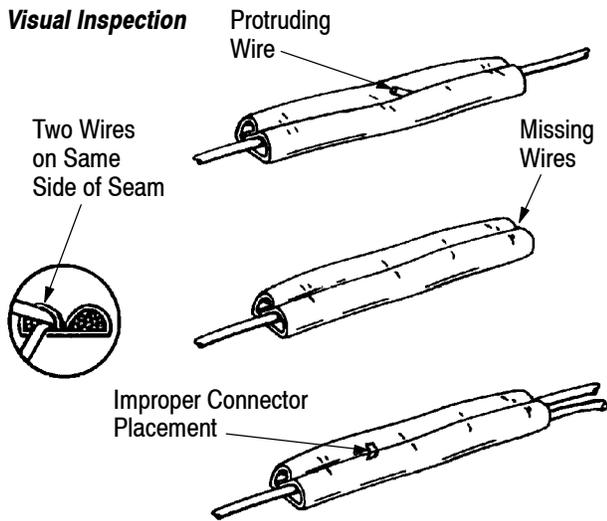

Figure 8
**8.2. Visual Inspection** (Figure 8)